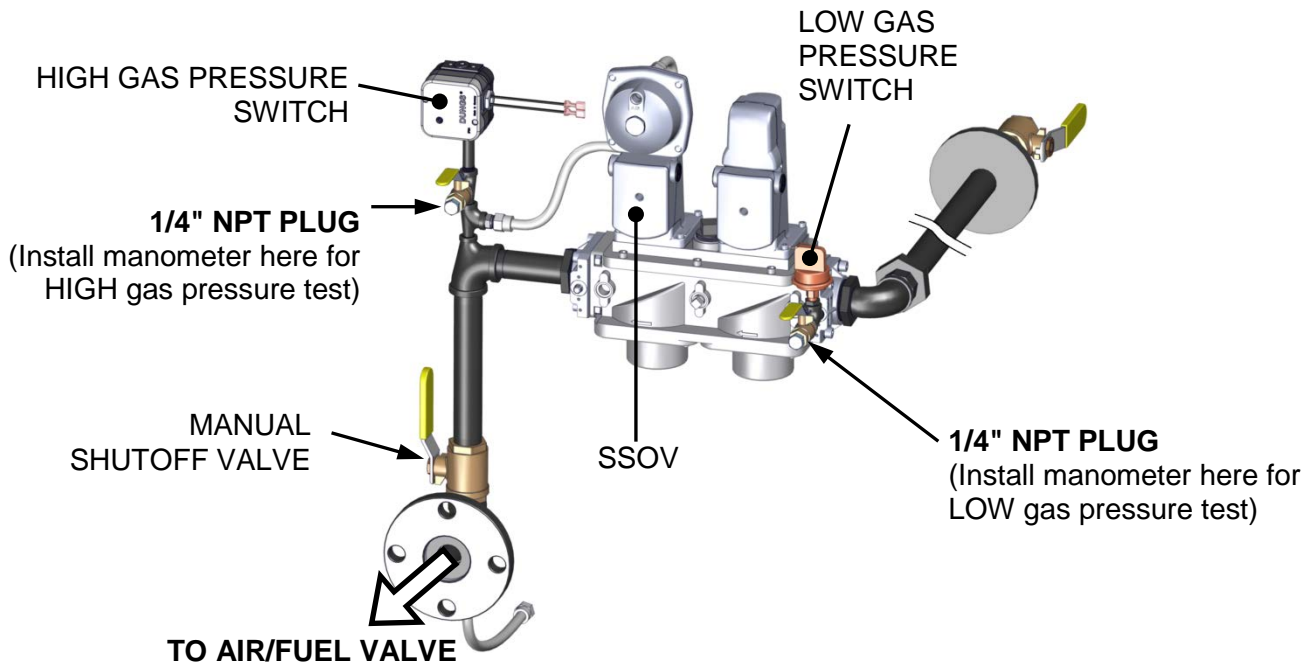

Figure 5-1. Low & High Gas Pressure Testing –800/1060 Shown
To simulate a low gas pressure fault, refer to Figure 5-1 and proceed as follows:
2. Remove the 1/4" plug from the ball valve at the **Low Gas Pressure** switch shown in the lower portion of Figure 5-1.
To simulate a high gas pressure fault, refer to Figure 5-1 and proceed as follows:
1. Remove the 1/4" plug from the leak detection ball valve shown in Figure 5-1.